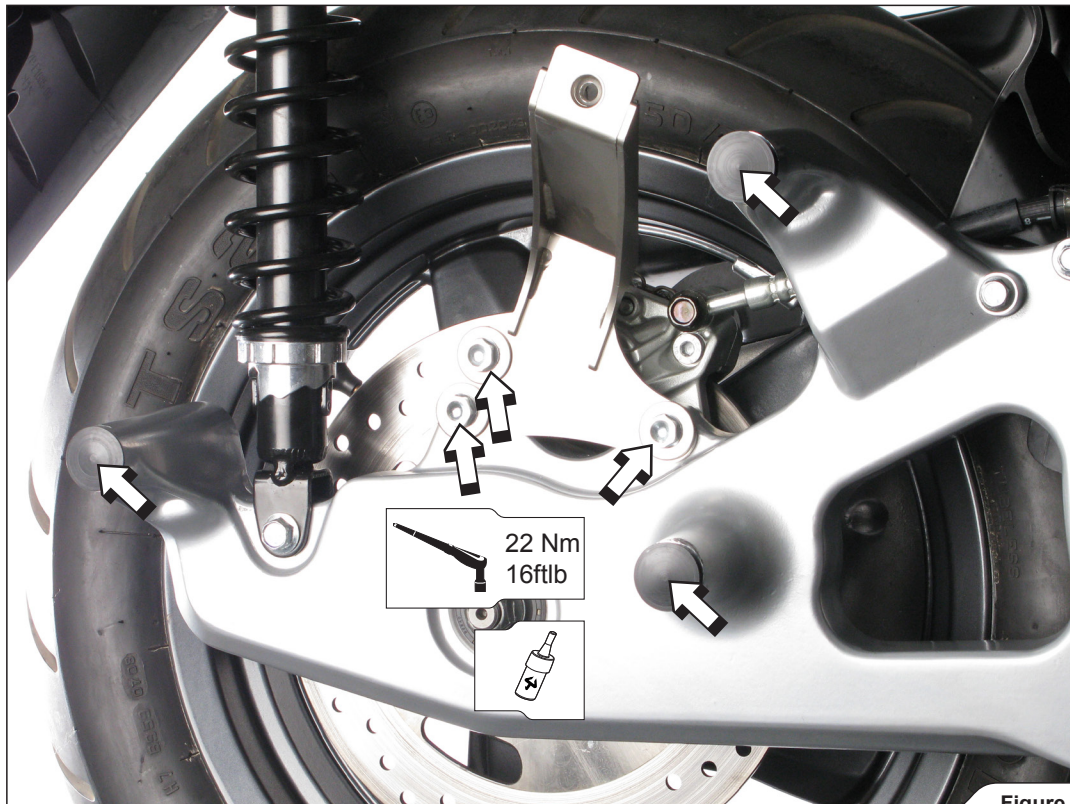

Figure 5
2. **For X-MAX 125 / X-CITY 125 only:** install the Akrapovič muffler bracket onto the brake caliper as shown, using Akrapovič bolts and washers. Tighten the bolts to a specified torque. Insert the Akrapovič PVC plugs into the stock muffler's mounting holes, use rubber mallet to tap the plugs into place (**Figure 5**).